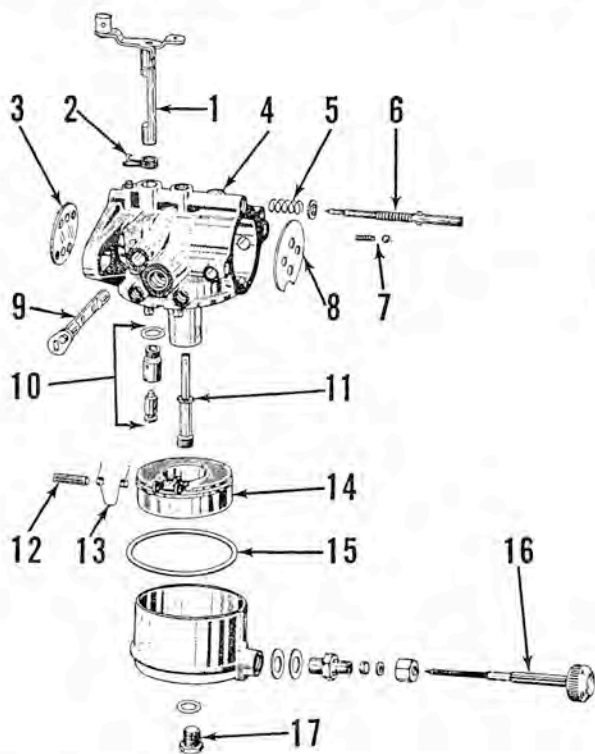

Fig. M45—Exploded view of Carter carburetor used on some early models.
Carter Model N-2150S carburetors are used on Mark 20H motors. Refer to Fig. M45. Initial setting is 1¼ turns open for both the idle adjustment needle (6) and high speed adjustment needle (16). Final adjustment must be made under load after operating temperature has been reached. Adjust the high speed needle to provide the leanest setting which will permit full power and acceleration. Adjust the idle needle after high speed needle has been